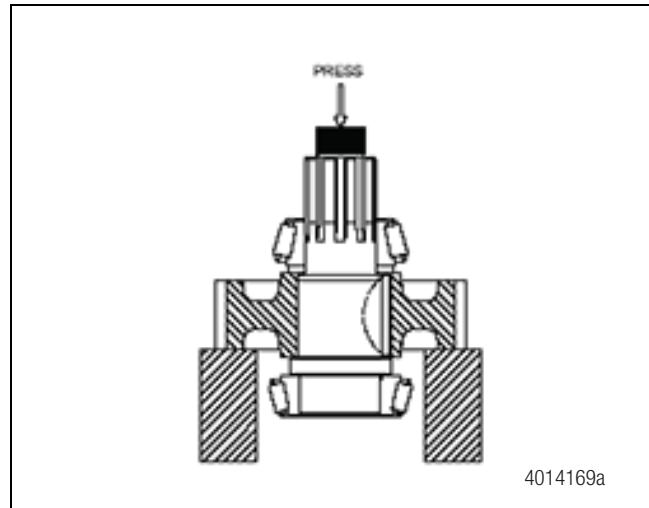

Figure 5.19
3. Place the shaft assembly in a press so that the rear of the gear is supported and the press arbor bears against the threaded end of the shaft. Figure 5.19. Remove the front bearing cone assembly, the spacer washer, and the gear.